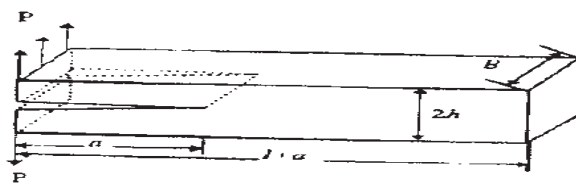

Fig. 1 Double cantilever beam
b) Determine the strain energy release rate for a double cantilever beam with $a \gg 2h$ and $l \gg 2h$ (Shown in Fig. 1), where P is the applied load and B is the width of the beam. [10]